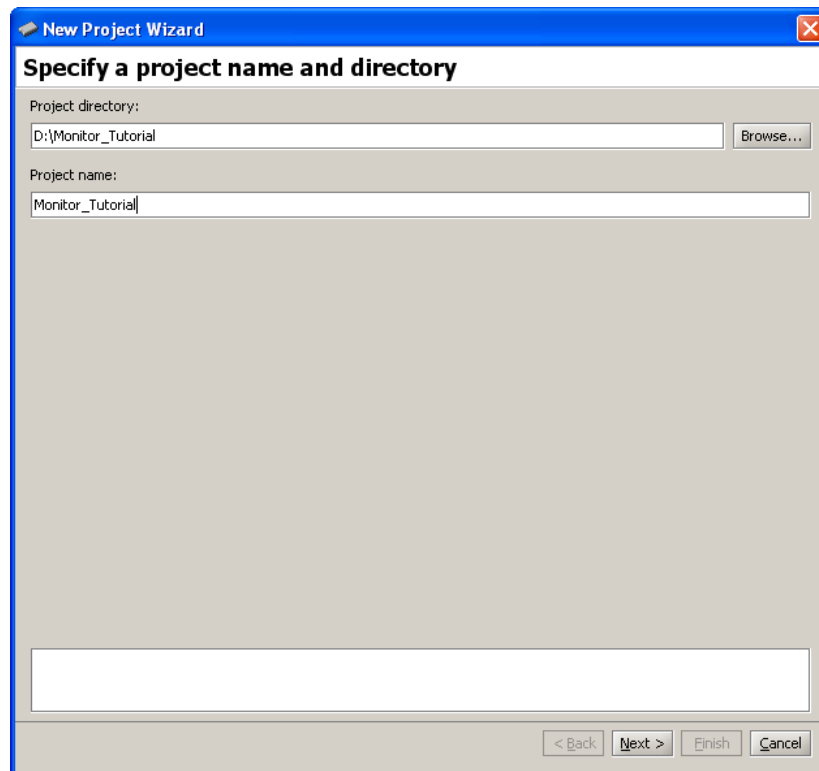

Figure 6. Specifying the project directory and name.
1. Select **File > New Project** to open the *New Project Wizard*, as illustrated in Figure 6. This Wizard presents a sequence of screens for defining a new project. Each screen includes a number of dialogs, as well as a message area at the bottom of the window. The message area is used to display error and information messages associated with the dialogs in the window. Double-clicking the mouse on an error message moves the cursor into the dialog box that contains the source of the error.
In Figure 6 we have specified the file system directory *D:\Monitor\_Tutorial* and the project name *Monitor\_Tutorial*. For simplicity, we have used a project name that matches the directory name, but this is not